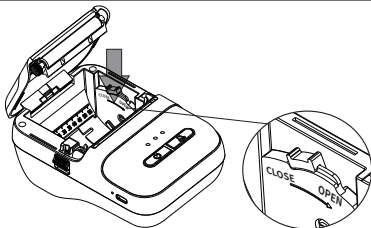

fig.3
- ③ Pull out part of the paper roll and close the top cover, make sure both sides of the cover are closed. (Note: Face the serrations and tear the label paper down) **(fig.3)**
Click to open the downloaded print driver package.(fig.3)